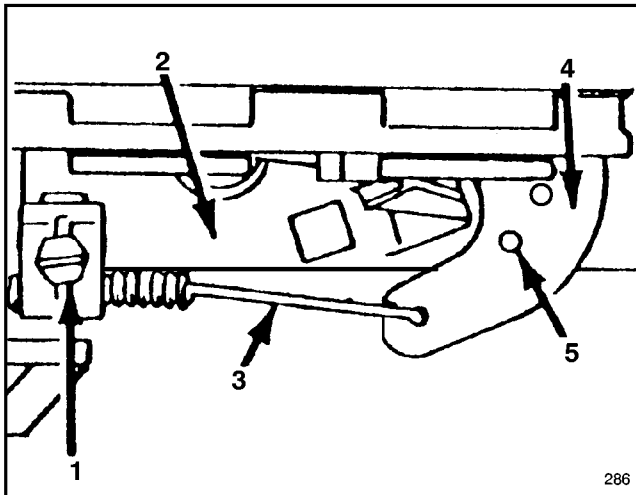

Figure 20
3. Loosen cable clamp screw until throttle cable slides (Fig. 20).
4. Move throttle cable left or right until holes in throttle lever and throttle bracket align (Fig. 20).